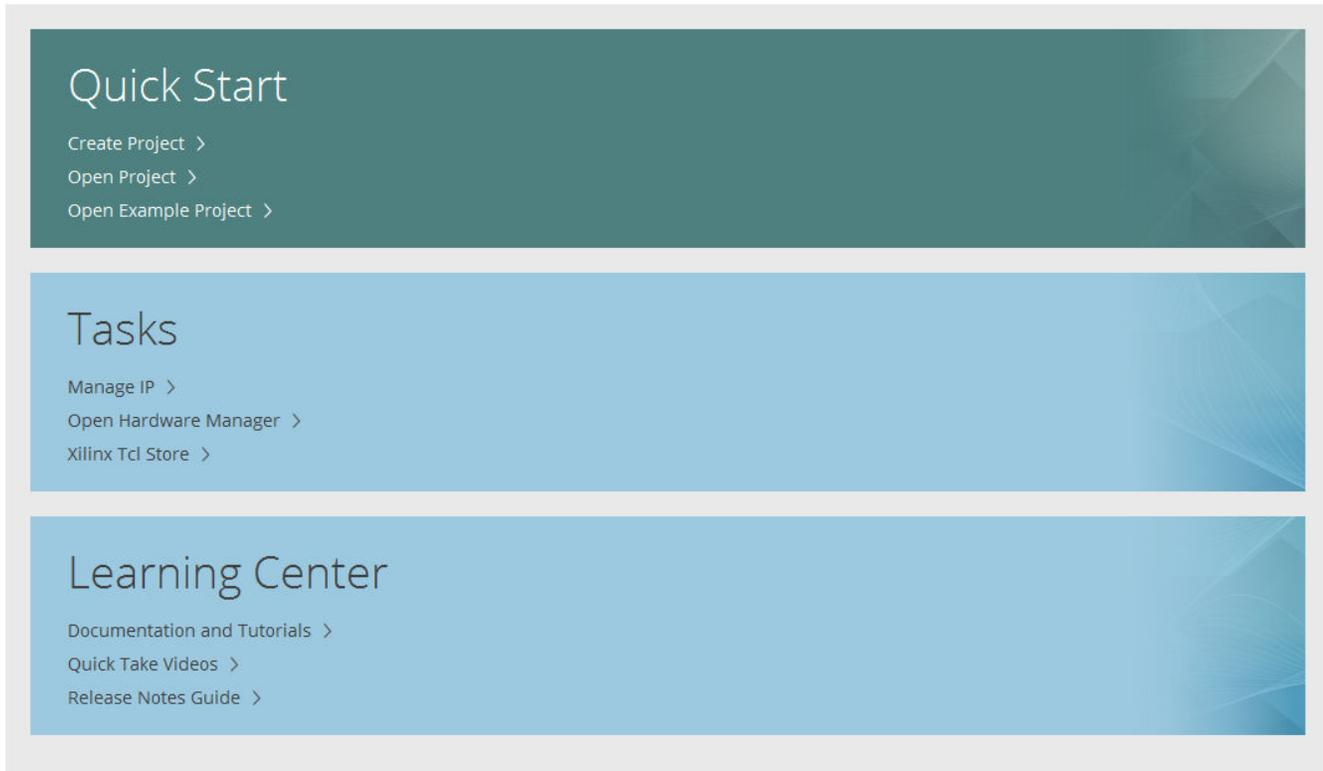

**Figure 7-5. SYNC is now set low Inside the ADC**
3. Click on the “JESD Block Enable” (to enable it). The GUI should look now as shown in Figure 7-5.